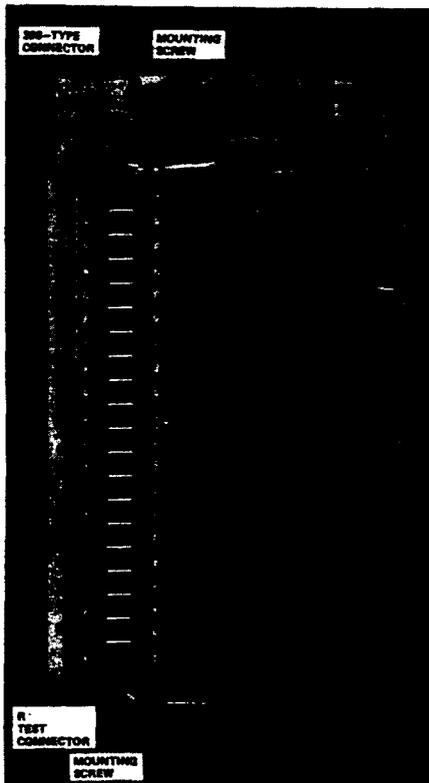

Figure 5—R Test Connector (AT-8916) Mounted on a 308-Type Connector
2.06 The R test connector (Figure 5) is used to make test contacts with the 100-pair test terminal field of the 308-type connector. The test connector contains 200 (100 pairs) spring-loaded contacts that are internally connected to 200 (100 pairs) exposed test field spikes (contacts). The test field spikes are located on the front of the test connector. The test spikes permit the attachment of test cords to equipment and provide a means of testing one cable pair at a time.